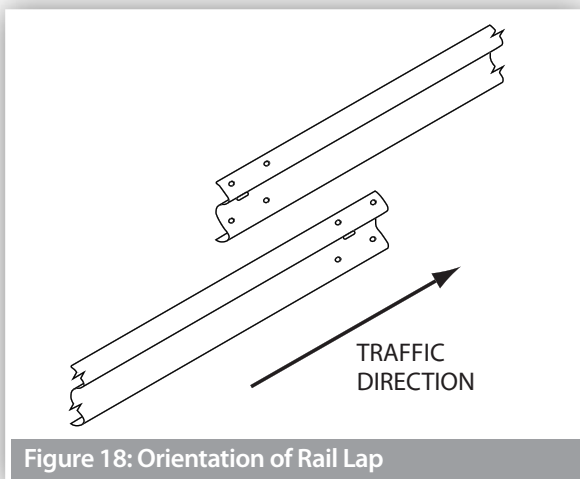

Figure 18: Orientation of Rail Lap
- Rails are orientated so that no leading edge is presented to the traffic face as shown in Figure 18.
9. Rails are overlapped so that no leading edge is presented to the traffic face as shown in Figure 18.